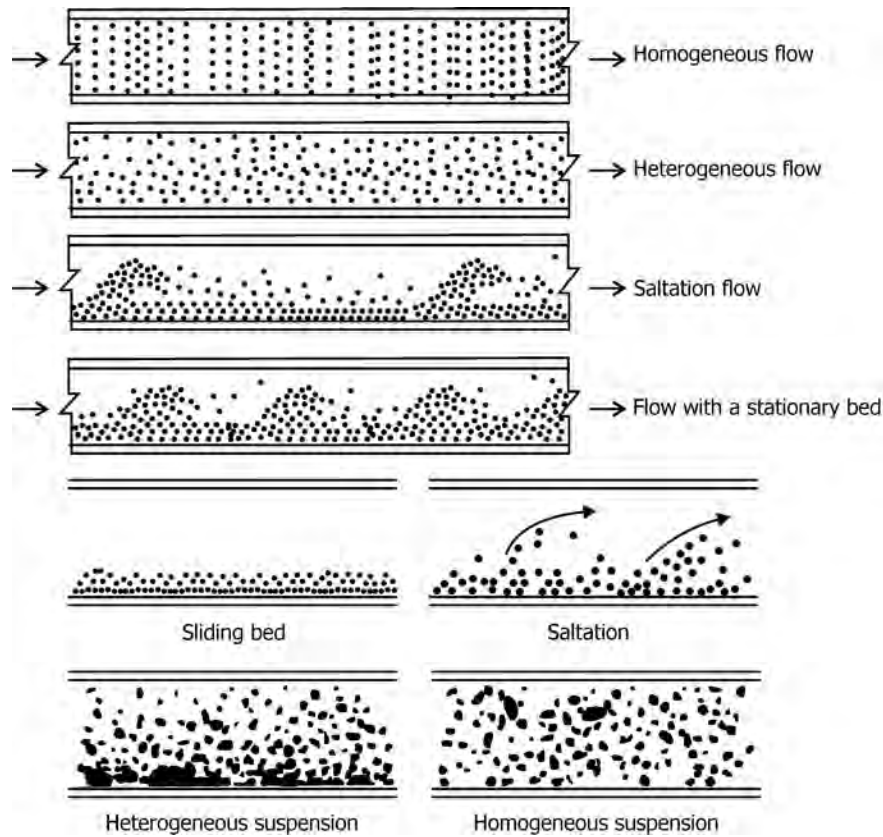

FIGURE 7.17 Regimes of flow for settling slurries in horizontal pipelines.
- The regimes are illustrated in Figures 7.17 and 7.18.